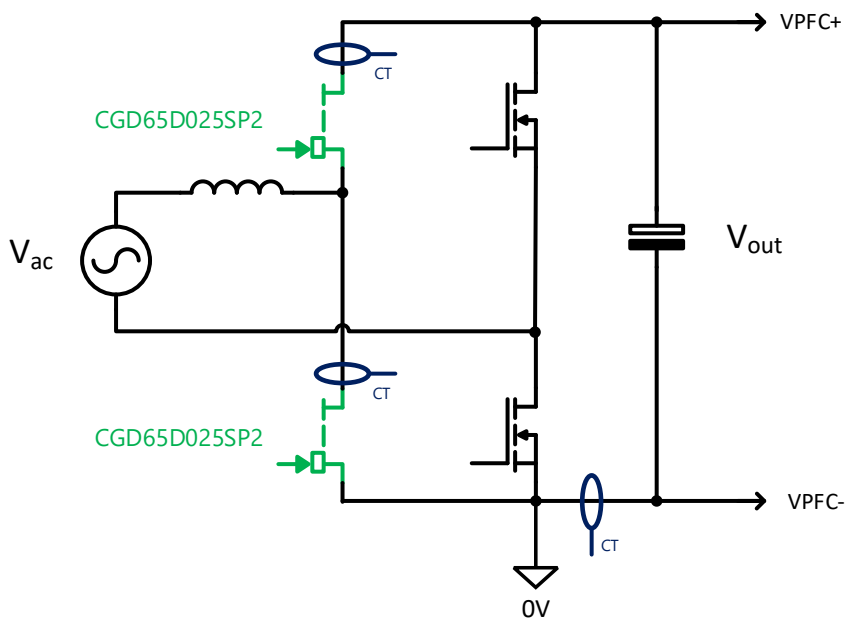

Figure 3 – CGD 3 kW TPPFC functional schematic
The TPPFC controller, the NCP1681, requires sensing the output current and the ICeGaN current during the t_{on} periods. Therefore, the current sense is implemented using three current transformers (CT); one of them is placed between the negative terminal of the electrolytic bulk capacitor and the source of the low-side MOSFET and ICeGaN devices, and the other two, connected to the drain terminal of each ICeGaN device, see Figure 3. Preventing the CT terminals from shorting is extremely important. Otherwise, this could lead to hazardous conditions or even damage the unit. Special attention should be given to the placement of the oscilloscope ground probe connections to avoid indirect short-circuiting the 0V and VPFC– nodes. For more details check the NCP1681 datasheet.
4. **WARNING:** T1 is a current transformer to measure the output current; it physically separates AGND and VPFC- nodes as illustrated in Figure 3. AGND is considered the 0-V reference and VPFC- corresponds to the negative terminal of the electrolytic capacitor in the output. Care must be taken to avoid shorting the T1 involuntary with the test equipment. For example, the ground leads of an Earth-connected oscilloscope probe must not be simultaneously connected to both GND and VOUT_RTN. This is particularly important if the user wants to measure the output voltage and other signals at the same time with the oscilloscope. A differential voltage probe can be used to monitor the output voltage to avoid shorting the T1.